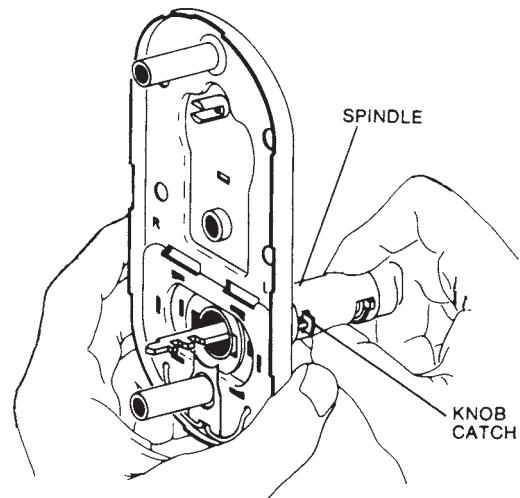

Figure 13.98 Right-hand conversion, Step 6.
6. Rotate the spindle 180° to relocate the knob catch (Fig. 13.98).